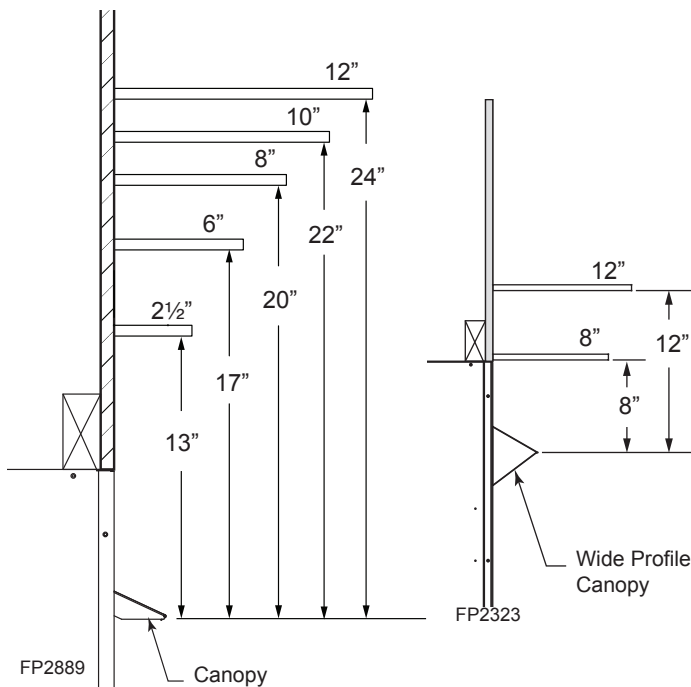

Figure 6 -
5. **Mantel clearances** — The canopy supplied with the unit must be installed. If a combustible mantel is installed, it must meet the clearance requirements detailed in *Figure 6*.